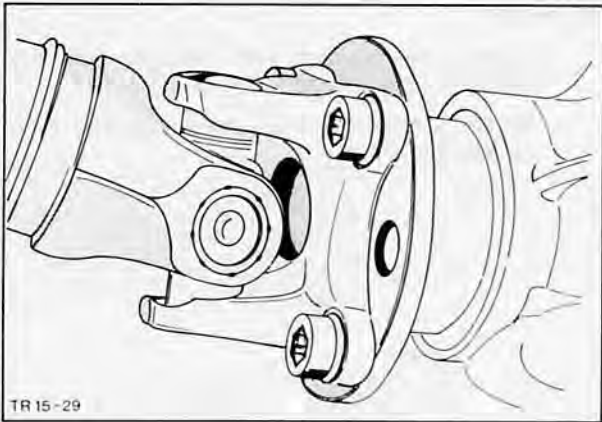

Fig. 129. Detach driveshaft from rear axle flange
2. Disconnect driveshaft from rear axle flange (4 bolts), Fig. 129.